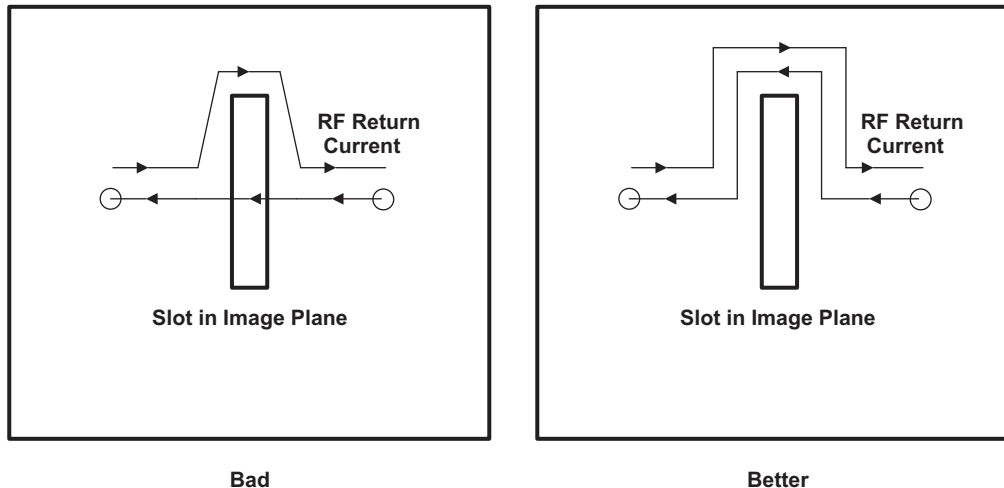

Figure 7-38. Do Not Violate Image Planes
- Avoid image plane violations. Traces that route over a slot in an image plane results in a possible RF return loop, as shown in Figure 7-38.